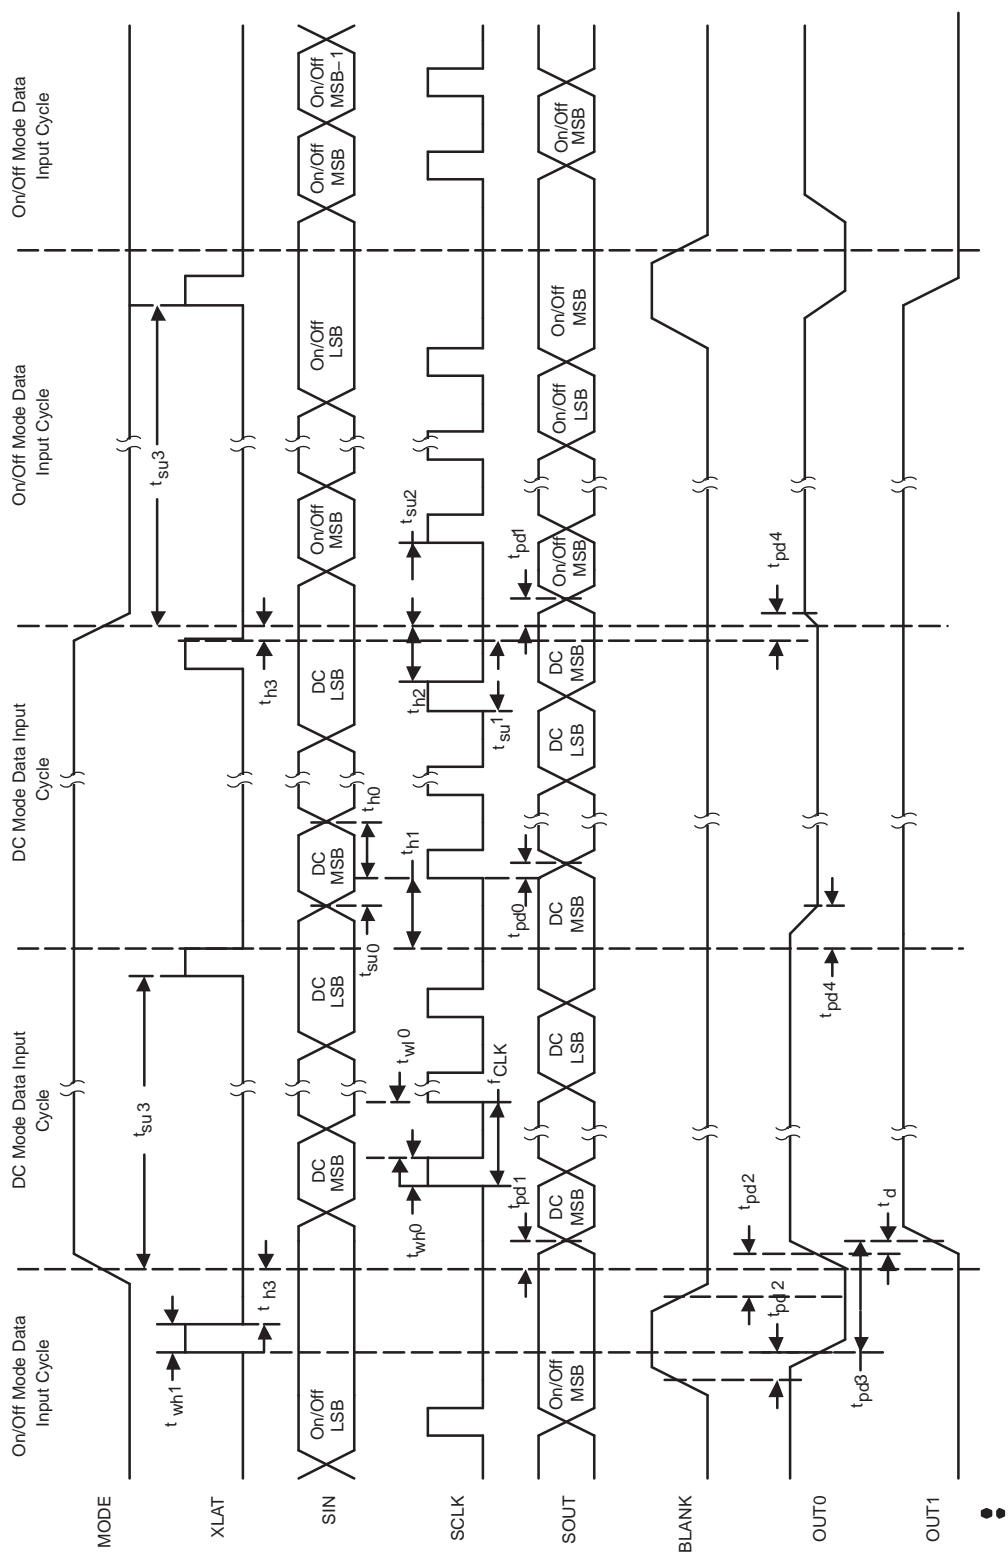

Figure 10. Timing Chart Example for ON/OFF Setting to Dot-Correction
(3) See Figure 4 . Figure 10
(4) See Figure 5 and Figure 10
(5) See Figure 5 and Figure 10
MODE must be set to high to input data into the dot-correction register. The internal input shift register is then set to 112-bit width. After all serial data is clocked in, a rising edge of XLAT latches the data to the dot-correction register (Figure 10).
MODE must be set to low to input On/Off data into the On/Off register. The internal input shift register is then set to 16-bit width. After all serial data is clocked in, a rising edge of XLAT, during BLANK = high, is used to latch data into the On/Off register. Figure 10 shows the On/Off data input timing chart.